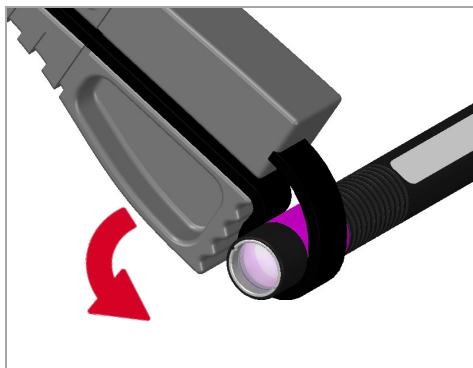

Figure 2. Remove Collimator and Lens
1. Remove the original collimator and the lens from the wand. This can be done by loosening the collimator counterclockwise with the strap wrench provided in the kit (Figure 2). If needed, a small wrench may be used to hold the body of the wand on the flat sides to provide leverage.